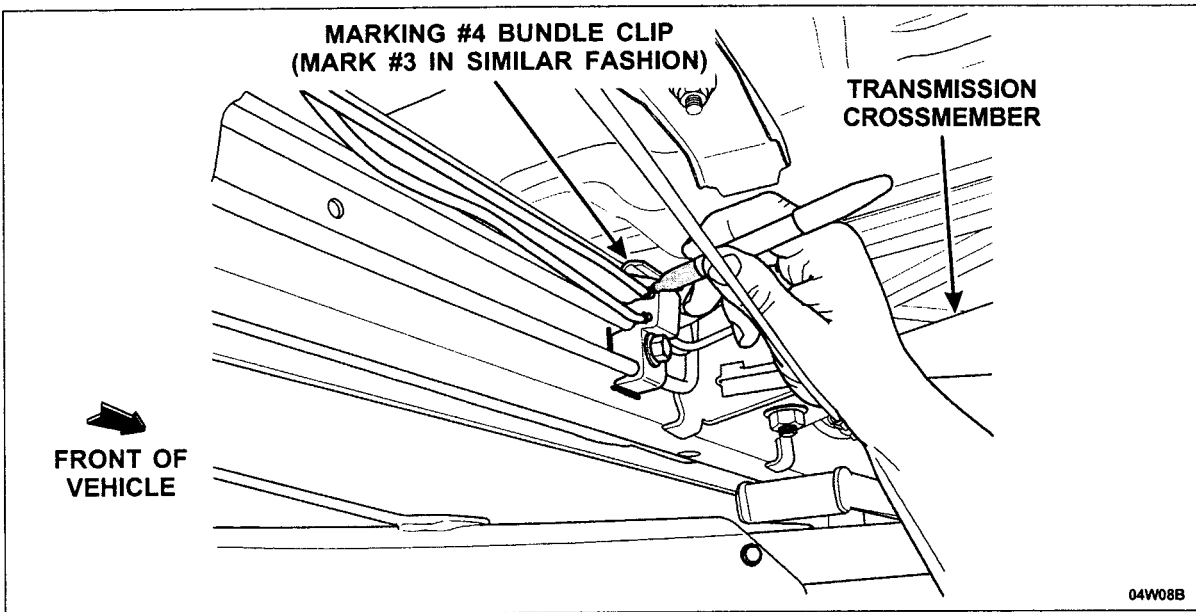

FIGURE 2
1. Mark the location of the #3 and #4 bundle clips (nearest the transmission crossmember) on the frame rail to assure proper positioning of the *new* clips. See Figures 2 and 3.